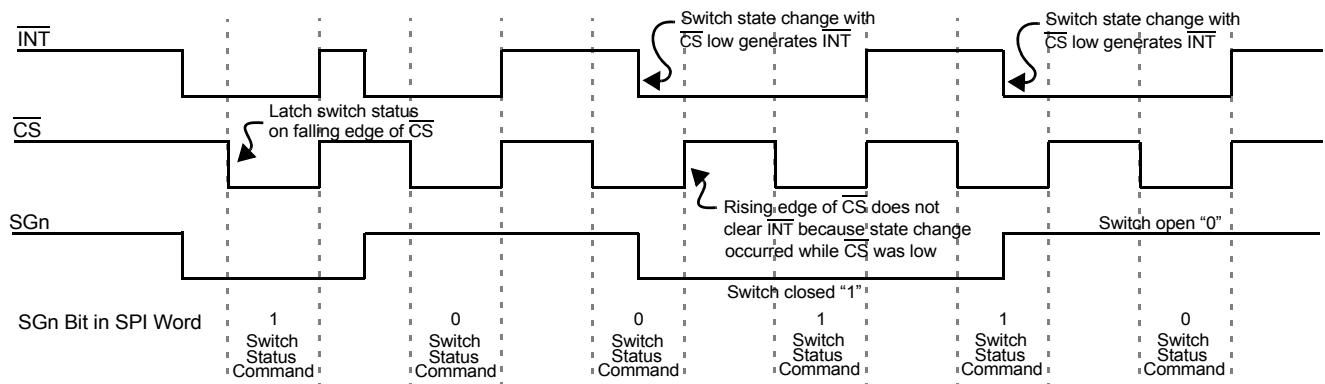

Figure 6. Normal Mode Interrupt Operation
1. \overline{INT} pin is reset to logic [1], except when additional switch changes occur during \overline{CS} low (see Figure 6, page 11).
Figure 6, page 11, is a graphical description of the device operation in Normal Mode. Switch states are latched into the input register on the falling edge of $\overline{\text{CS}}$. The $\overline{\text{INT}}$ to the MCU is cleared on the rising edge of $\overline{\text{CS}}$. However, $\overline{\text{INT}}$ will not clear on the rising edge of $\overline{\text{CS}}$ if a switch has closed during SPI communication ($\overline{\text{CS}}$ low). This prevents switch states from being missed by the MCU.